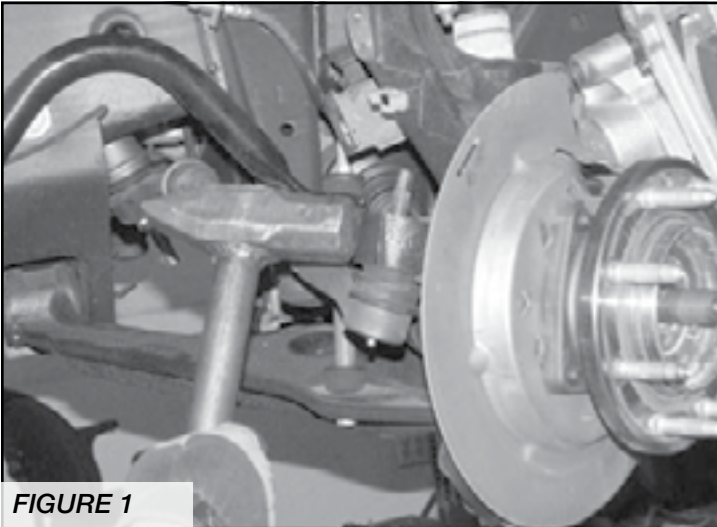

FIGURE 1
4. Beginning on the driver's side, disconnect the tie rod end from the steering knuckle by striking the knuckle to dislodge the tie rod end. **SEE FIGURE 1**